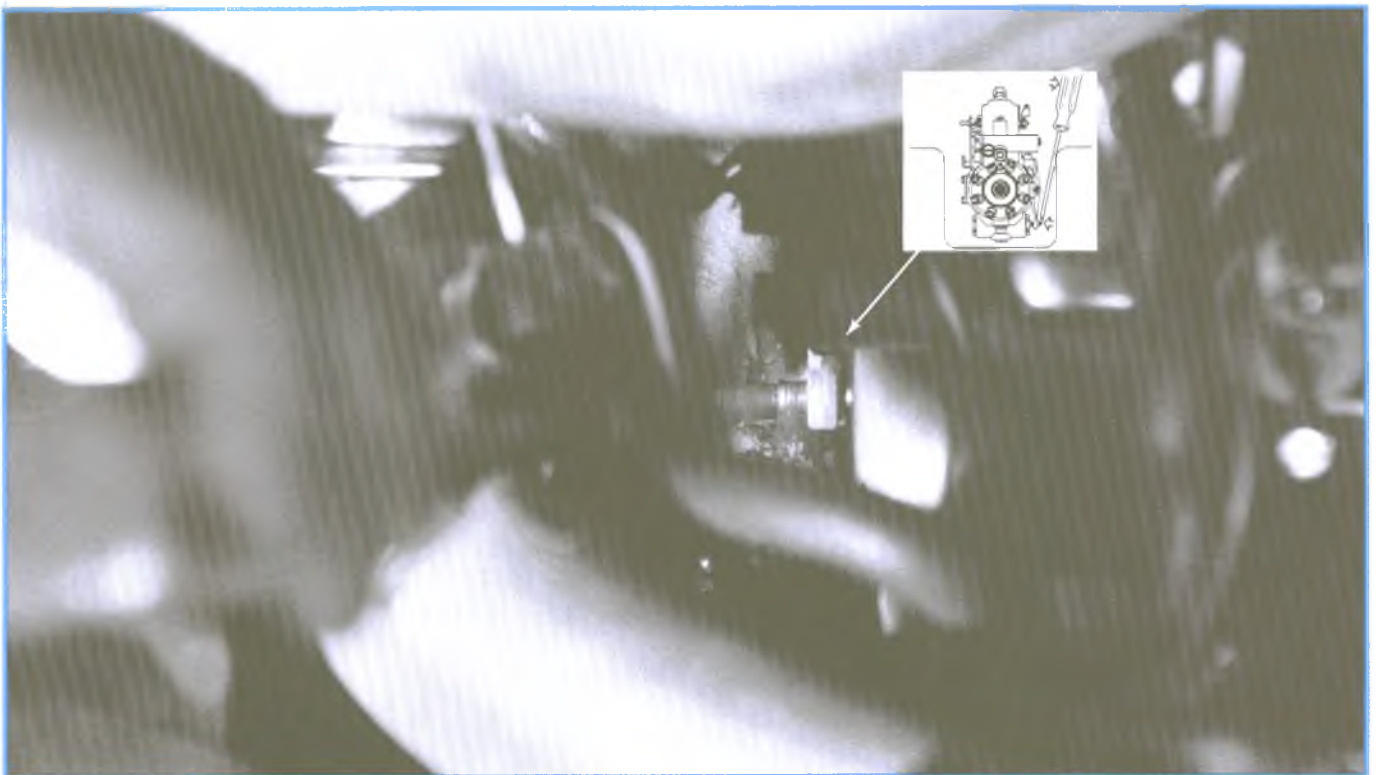

Figure 7-75, Advance Mechanism Check
5. While the engine is running at 2,000 rpm, use a long screwdriver to press the bottom of the rocker lever for the injection pump light load advance mechanism inward (see Figure 7-75).